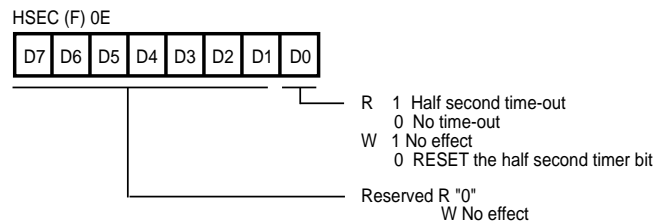

Figure 29. Half-Second Timer Status Register
**Watch-Dog Timer Mode Register (WDTMR).** The WDT is a retriggerable one-shot timer that resets the Z8 if it reaches its terminal count. The WDT is initially enabled by executing the WDT instruction and refreshed on subsequent executions of the WDT instruction. The WDT circuit is driven by an on-board RC oscillator or external oscillator from the XTAL1 pin. The POR clock source is selected with bit 4 of the WDT register (Figure 29). The WDTMR register is accessible only within 64 Z8 clock cycles after POR.